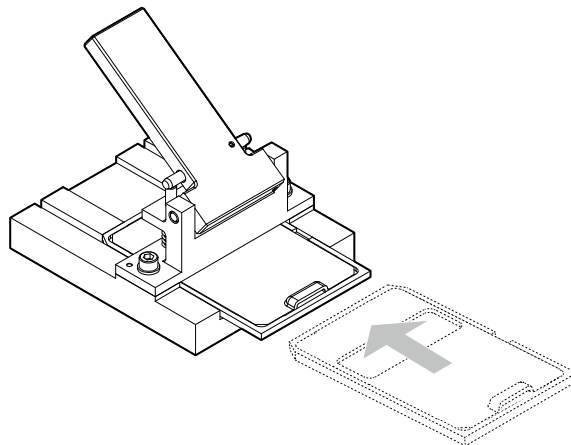

Figure 1.15 Insert the film cassette tray into the Film perforator
- c Put the film cassette tray into the Film perforator, the side with the opening first. Push until stop, see Figure 1.15.